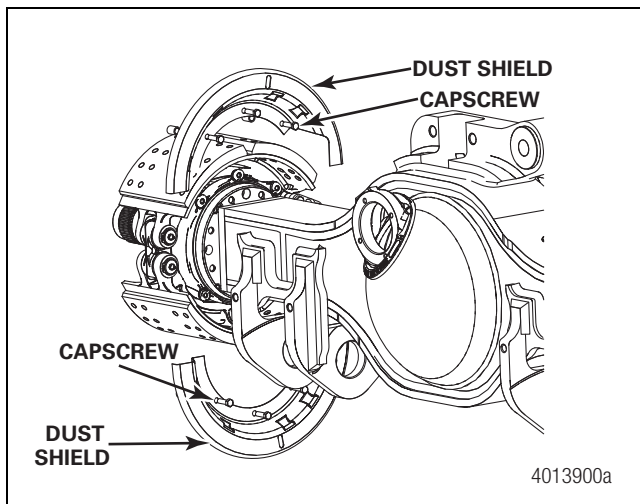

Figure 5.18
- If equipped with brake dust shields, install the dust shields and mounting bolts. Figure 5.18.